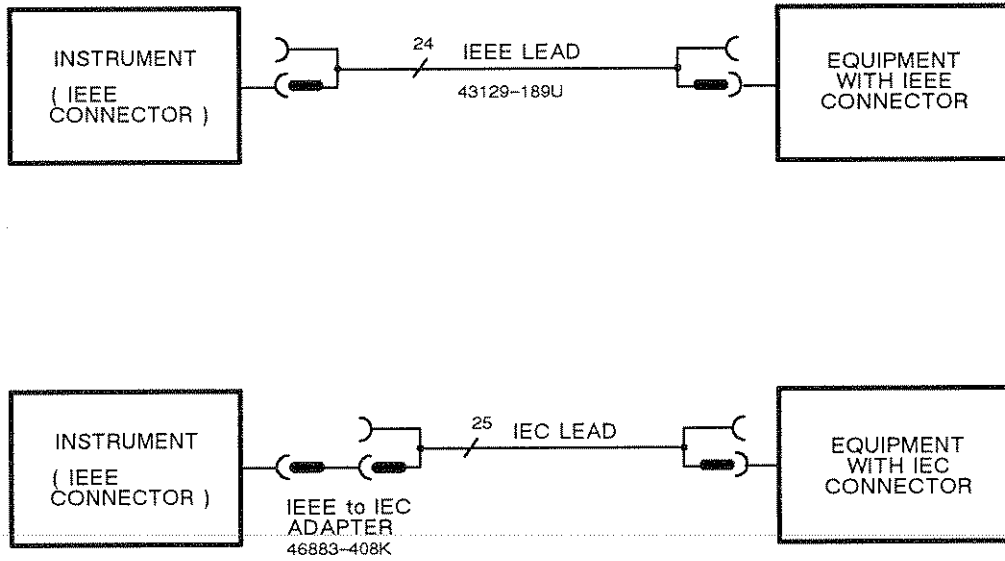

Fig. 2-2 GPIB interconnections
(1) Remove the rectangular cover plate from the right-hand side of the rear panel, withdraw the interconnecting lead and discard the cover plate but retain the fixing screws.
(2) Connect the GPIB interface assembly AD0 taking care that the ribbon cable connector SKP is correctly aligned with the connector PLP.
(3) Slide the GPIB assembly into the instrument, engaging top and bottom card guides, and switch the instrument on temporarily. Check that the front panel displays data correctly. If this is satisfactory switch off and continue with step (4); if, however, display data is corrupted, switch off and re-check the alignment of SKP and PLP.
(4) Secure the GPIB assembly into the instrument, engaging the top and bottom card guides, and fasten the assembly to the rear panel using the two screws removed in step (1).
(5) The interface is ready for GPIB operation after setting the appropriate talker/listener address - see Chap. 3 : 'Second function 2'.
(6) Connection to other equipment which has a 24-way bus connector to IEEE Standard 488 can be made with the GPIB lead assembly 43129-189U, available as an optional accessory. Where conformity with the radio frequency interference limits specified by VDE (Verband Deutscher Electrotechniker) is required, an alternative double screened GPIB lead assembly 46883-962H is available. An IEEE-to-IEC adapter 46883-408K is also available for interfacing with systems using a 25-way bus connector to IEC Recommendation 625 - see Fig. 2-2.